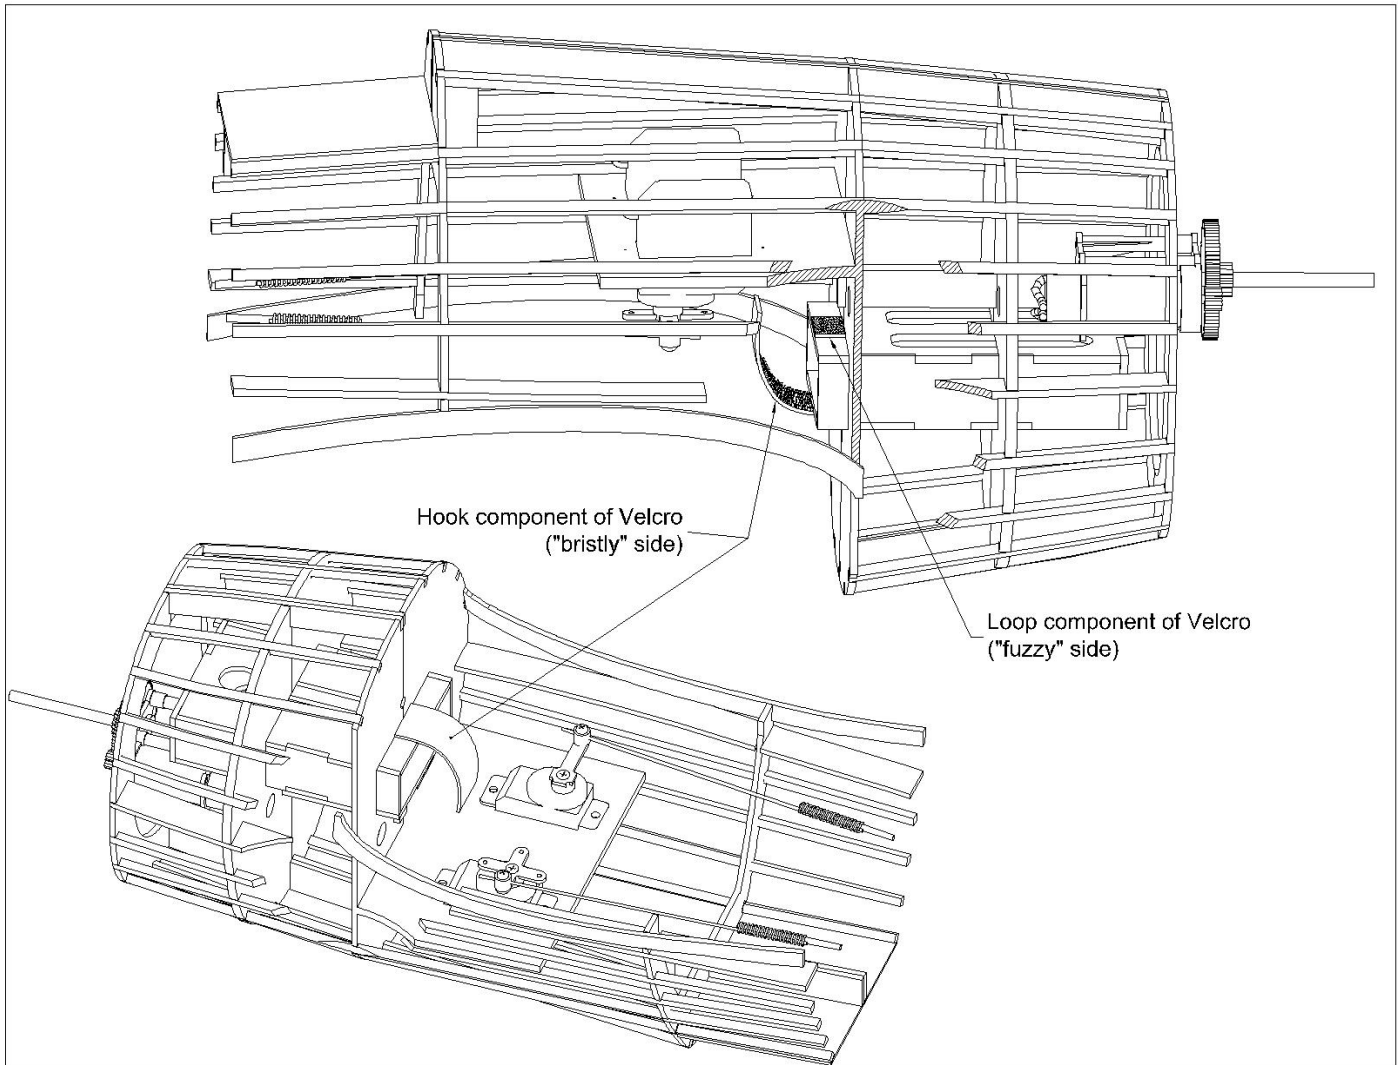

Figure 13
- ❑ The battery is held inside the battery box with Velcro. Orient and glue the Velcro to the top and bottom of the battery box so that it will create a "belt" to keep the battery from coming out of the battery box in flight as shown in Figure 13. If you chose to use a longer battery pack that is longer than the depth of the battery box you will need to make the hook component of the Velcro longer.